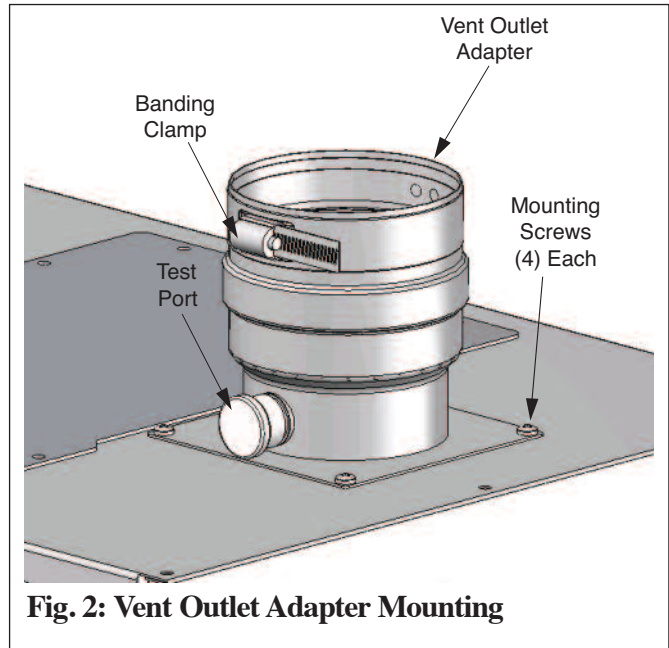

Fig. 2: Vent Outlet Adapter Mounting
8. Remove and save the (4) mounting screws from the vent outlet adapter from the top jacket panel, see Figure 2.